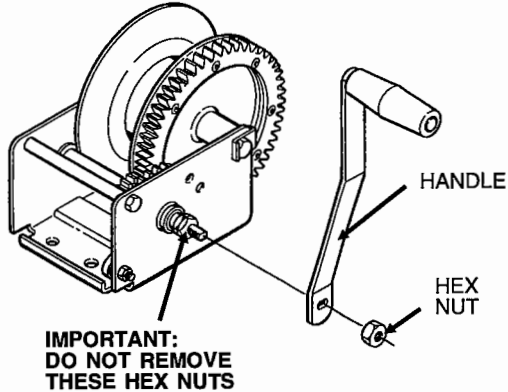

FIG. 37
Step 4. Align slot of handle with flat portion of winch pinion shaft. Use hex nut to hold handle in place and tighten securely. For additional winch information, follow the instructions and precautions listed in the material supplied with the winch from the manufacturer. See Fig. 37.